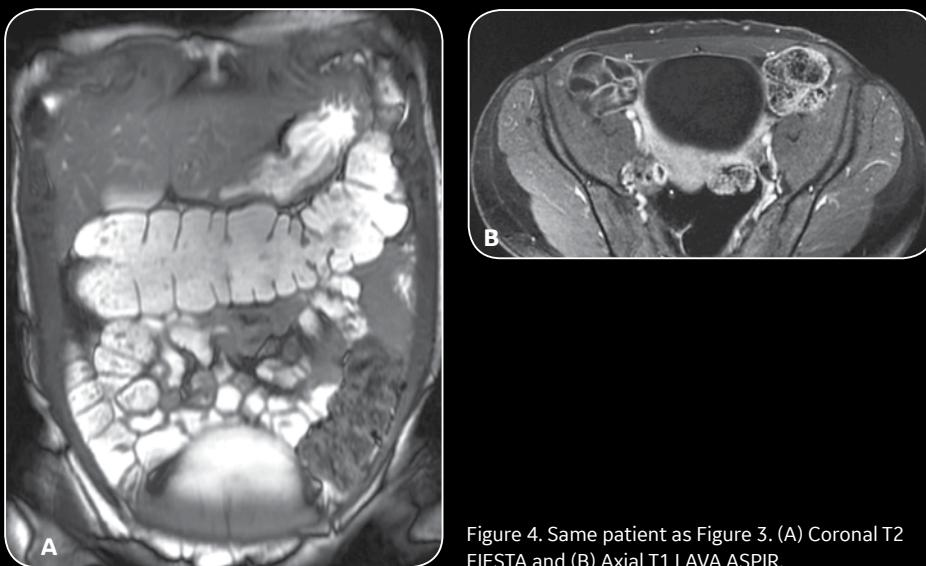

Figure 4. Same patient as Figure 3. (A) Coronal T2 FIESTA and (B) Axial T1 LAVA ASPIR.
Figure 4. Image of a hip-joint depicting femoral head necrosis. (A) T2w FSE Flex Coronal (Water Image), FOV 36 cm, Th/Sp 4 mm/1 mm, 384 x 288 in a scan time of 1:17 min. (B) T2w FSE Flex Coronal (In-phase), FOV 36 cm, Th/Sp 4 mm/1 mm, 384 x 288 in a scan time of 1:17 min.